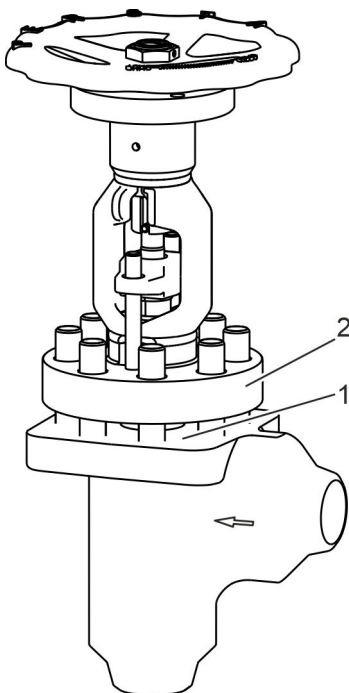

Fig. 33: Fitting the bonnet
- 33. ▶ Fit the bonnet (Fig. 33/2) on to the stud bolts on the body (Fig. 33/1).